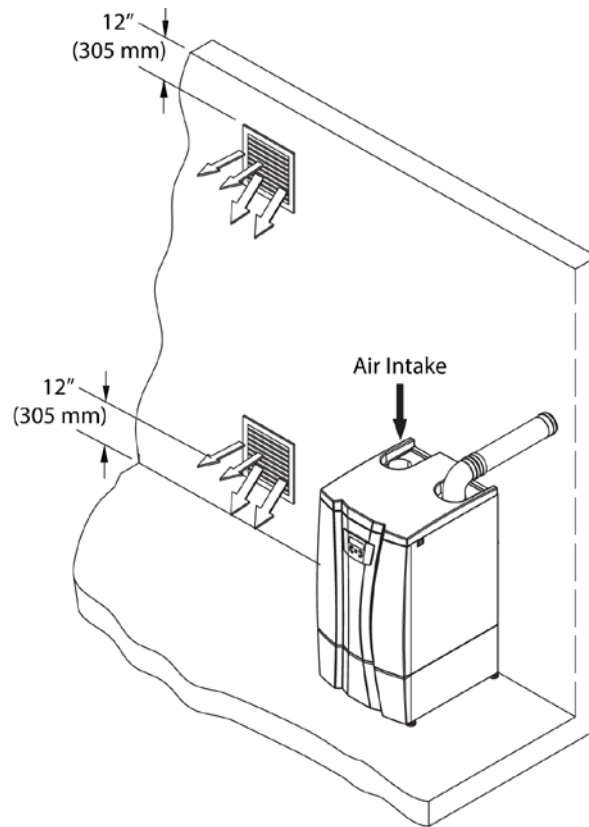

Figure 1: Combustion-Air Makeup-Air Vent Location
- When combustion air is brought from outside the building, the boiler room shall be provided with two permanent openings, one commencing 12 inches from the top and one commencing within 12 inches from the bottom of the room (see Figure 1). The openings shall communicate directly, or by ducts, freely with the outdoors. One of the following methods must be made to provide adequate air for ventilation and combustion.